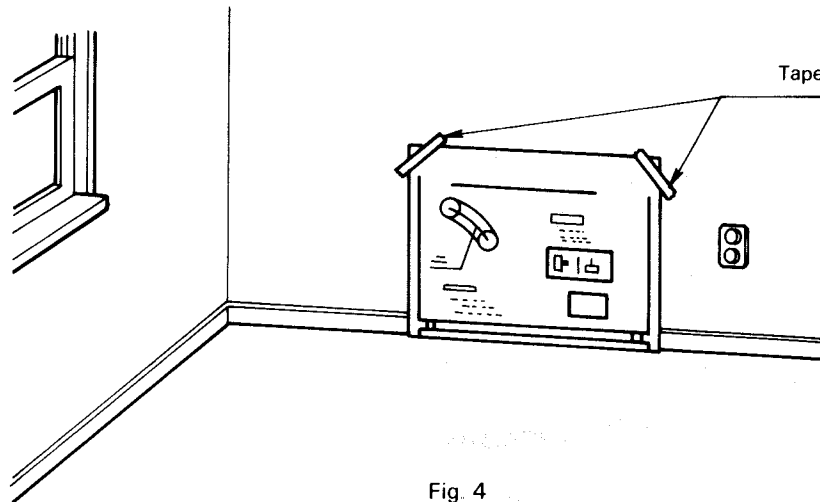

Fig. 4
3. For standard installation, use the template enclosed with the heater to position the hole for the flue pipe. Tack or tape template to the wall at the desired position (See fig. 4)